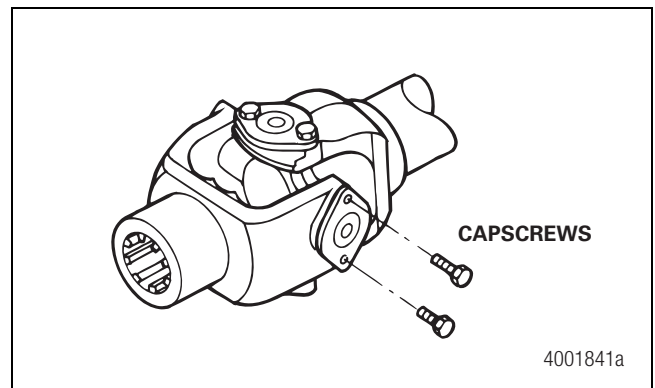

Figure 5.10
4. Align the cover plate holes and the yoke ear. Figure 5.10. Install the bearing cover plate flush against the milled surface of the yoke.